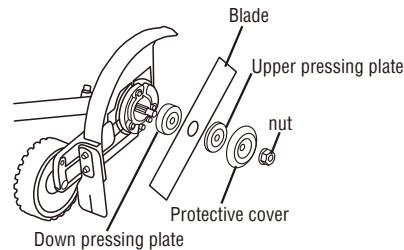

Fig.5B
5. Remove the nut, protective cover, upper pressing plate, and blade, and push down the pressing plate from the motor shaft (Fig. 5B). Check and replace them if they are worn.
1. Position the down-pressing plate onto the motor shaft. Install the new blade, upper pressing plate, protective cover, and nut onto the motor shaft as (Fig.5B) shows.